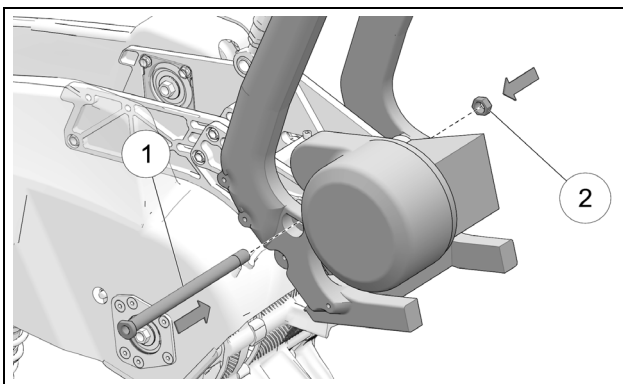

Figure 23
- Attach YETI to bike by reinstalling swing arm assembly bolt (1) and nut (2). See Figure 23.